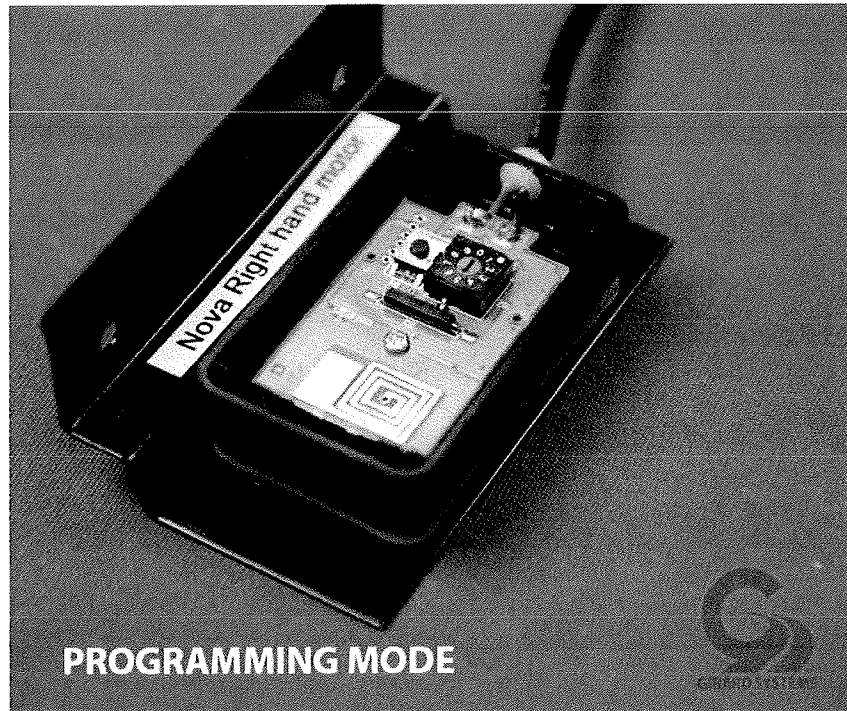

Figure 4
- D. Place the Motion Sensor cover upside down and back onto the base (Figure 4). The reed switch must be located directly over the magnet to operate the Motion Sensor.
D. Place the Motion Sensor cover upside down and back onto the base (Figure 4). The reed switch must be located directly over the magnet to power the Motion Sensor.